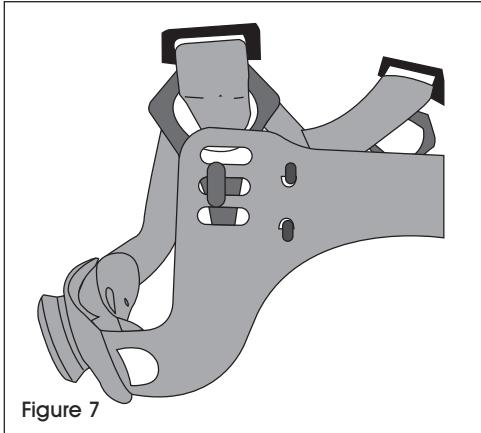

Figure 7
3. Place in high or low slot and turn clockwise (90°) to lock it into the appropriate height adjustment slot. (See Figure 7)